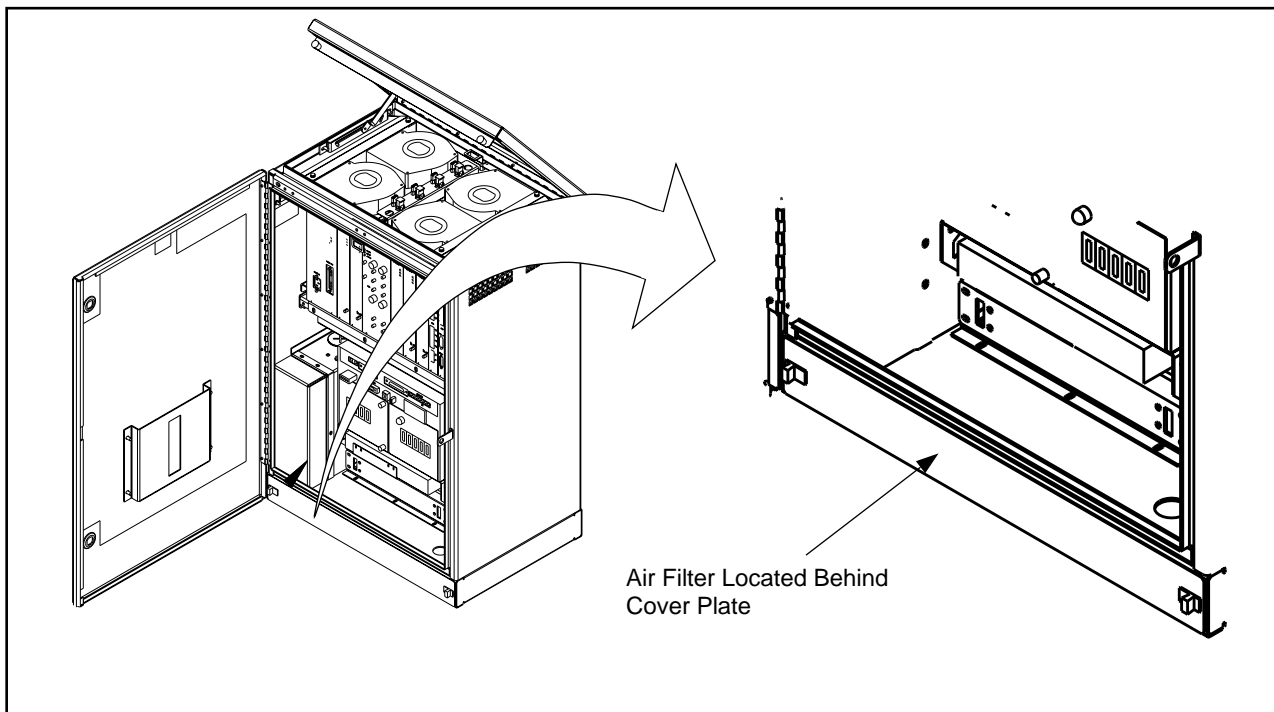

Figure 5-31. Air Filter Location
3. Locate the lower air filter cover. See Figure 5-31 on page 5-58.